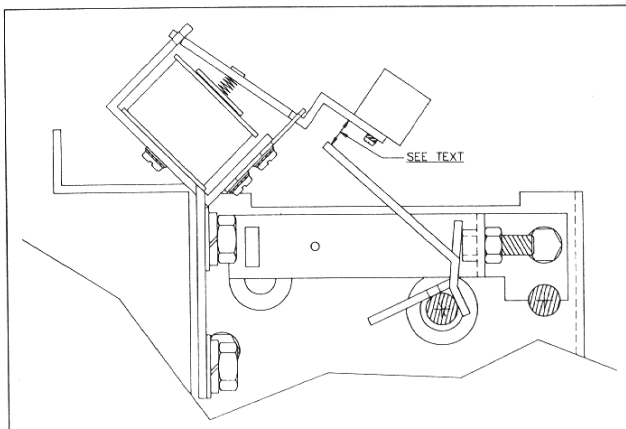

Figure 3. Trip Lever Gap Adjustment
(1) Vacuum Interrupter
- Measure and record the height of the opening springs (b, Figure 3, IB-60010).
The closing coil is located in the lower front center of the circuit breaker. See Figure 3, Page 4 of IB-60010. To replace it:
This assembly is located in the center part of the mechanism area, just to the left of the main closing spring. See Figure 3, Page 4 of IB60010. To replace it:
- f. Check the time interval from energization of the trip coil (at nominal control voltage) to the parting of the main contacts of the circuit breaker. This time must be within 40 to 55 milliseconds. If necessary, bend the trip lever slightly to achieve this setting. See Figure 3.